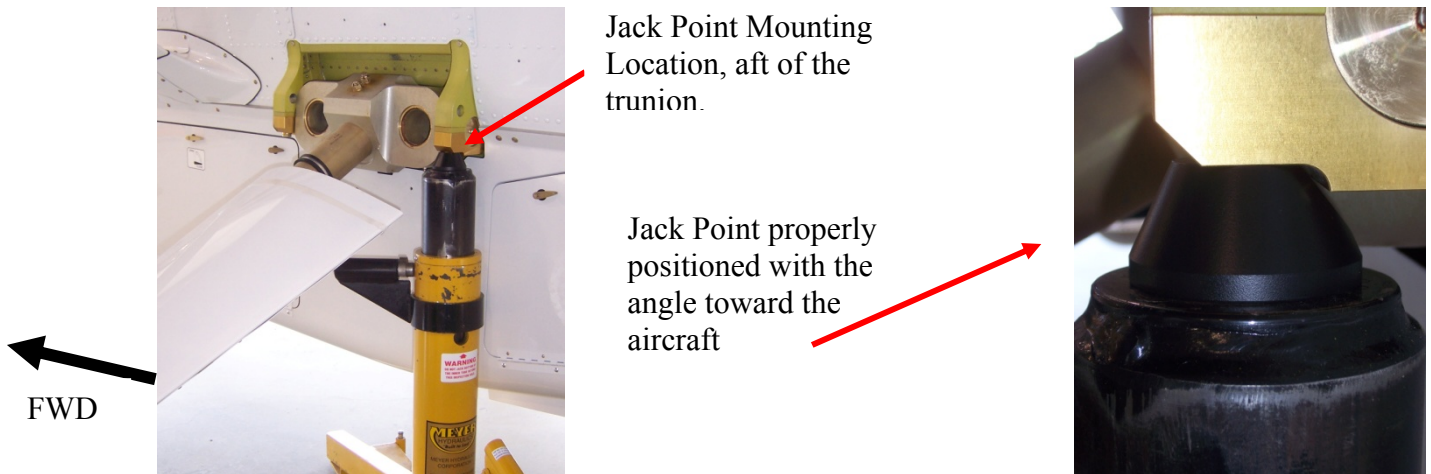
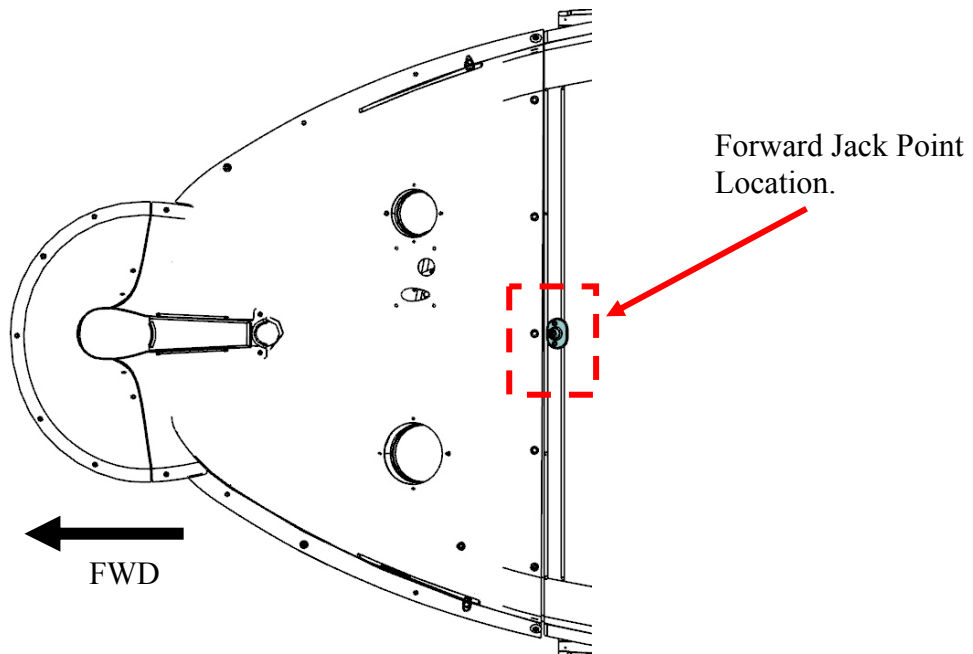

Figure 5-3: Jack Point Mounting Location
Figure 5-4: Forward Jack Point Location
1. Remove the protective backing on the placard (P/N 100-910-0114) and position as shown in **Figure 5-3** on both sides of the aircraft.
The jack point mounting location is designed to be located aft of the trunion. Lifting the aircraft with the jack point (P/N 100-420-1123) in any location other than that illustrated in **Figure 5-3** may cause damage to the aircraft, or possible injuries to maintenance personnel.
3. Position a jack under the forward pod jack point illustrated in **Figure 5-4**.
4. Raise the three (3) jacks until the jack points are correctly positioned under the jack point mounting locations shown in **Figure 5-3** and **Figure 5-4**.
5. Simultaneously raise all three (3) jacks, ensuring that the aircraft is level as the tires clear the ground.